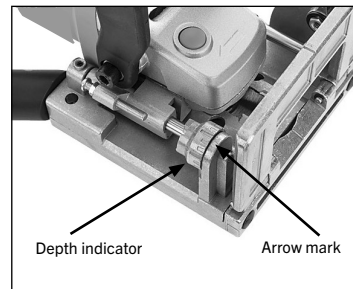

Fig 10. Depth indicator aligned with arrow mark
1. Rotate depth indicator (see Figure 10) until desired depth marking on indicator aligns with arrow mark.